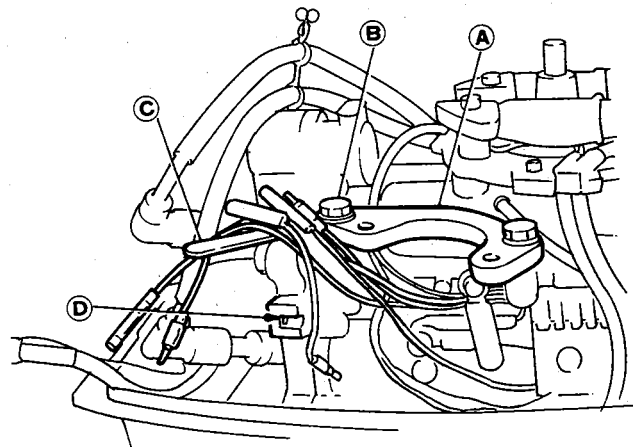

Fig.13.11
12) install starter motor bracket (A) together with 8 mm (0.31 in) dia. cord clamp (C) using the two bolts (B) (H825).
- Attach the lead wires of the main switch, neutral switch and rectifier to cord clamp (C).
- (D) Boss used to install starter solenoid (Fig.13.11)